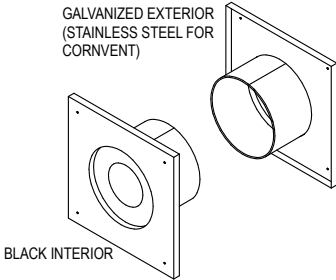

Figure 5
B. Cut a square opening in the wall in accordance with the dimensions in **Table 1**. The black portion of the Wall Thimble is to be attached to the interior wall, and the galvanized portion (stainless steel on CornVent) is to be attached to the exterior wall. The Wall Thimble adjusts to fit walls from 3"-8" thick (**Figure 5**).